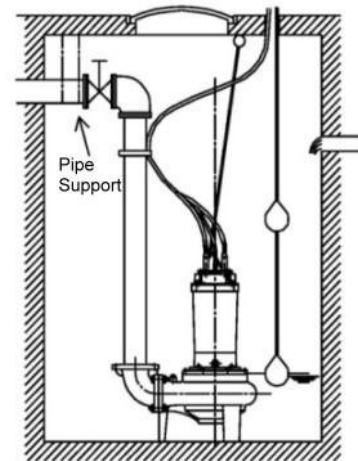

Fig.2
- d) If there is a flow of liquid inside the tank, support the piping to prevent abnormal vibration. (See Fig.2)